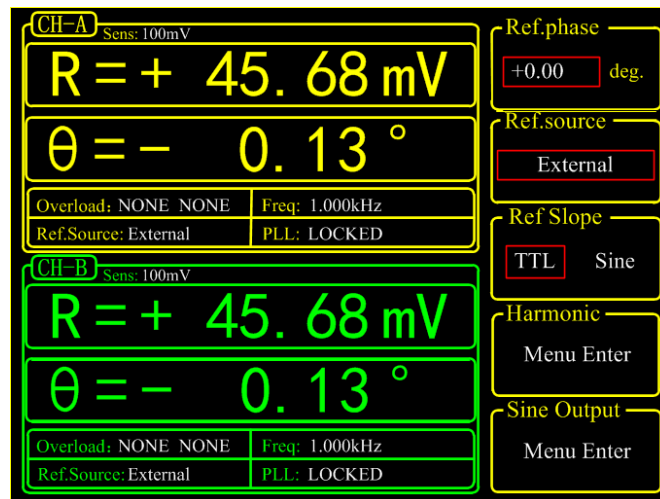
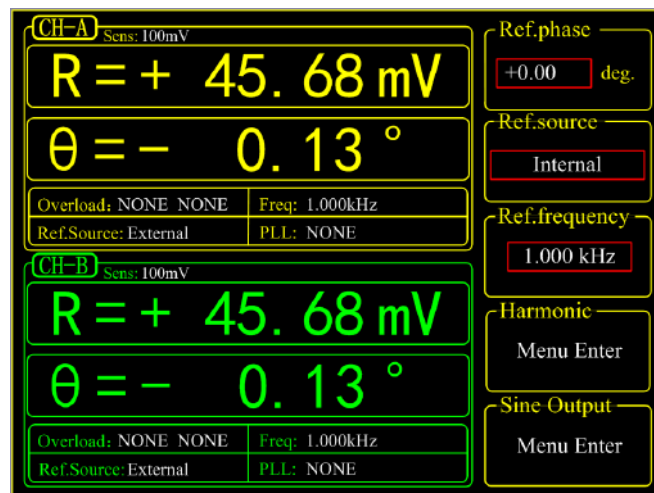
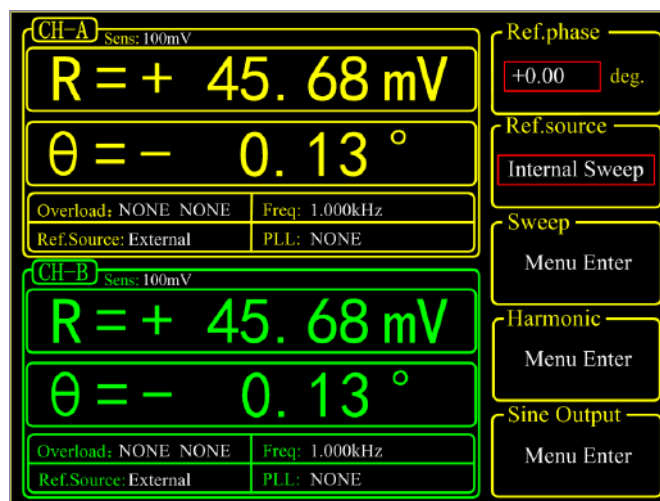

Fig.14 [REF/PHASE] Submenu-<External>.
Fig.15 [REF/PHASE] Submenu-<Internal>
Fig.16 [REF/PHASE] Submenu-<Internal Sweep>
Press [REF/PHASE] and enter its submenu. There are 7 function settings in the submenu, including <Ref.phase>, <Ref.source>, <Ref.slope>, <Ref.frequency>, <Sweep>, <Harmonic> and <Sine Output>. Soft key [CH A/B SWITCH] is provided for switching between two channels. Users can also switch between two channels through knob. When different <Ref.source> are selected, there will be different submenus as shown in Fig.14, Fig.15 and Fig.16.
- <Internal> The internal reference signal. In this mode, the reference signal is from the internal oscillator. The [REF IN] signal is useless. As shown in Fig.15, <Ref.frequency> can be set.
- <Internal Sweep> The internal reference signal sweep. In this mode, the signal generator will conduct internal sweep according to the parameters set by users. As shown in Fig.16, <Sweep> can be set.